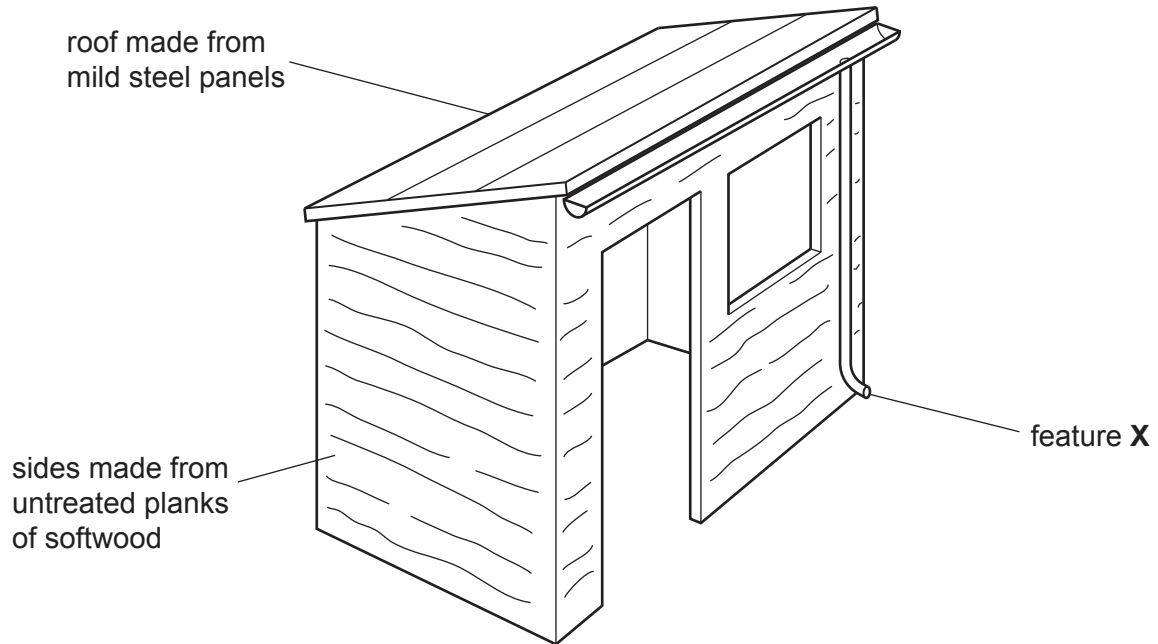

Fig. 4.1
- 4 Fig. 4.1 shows an incomplete design for a garden shed.